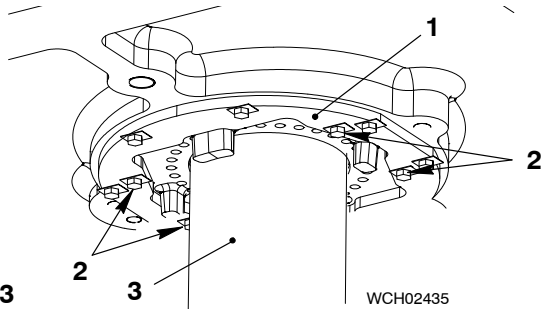

Fig. 3
14) Remove the four inner bolts (2, Fig.3) from the support (1).